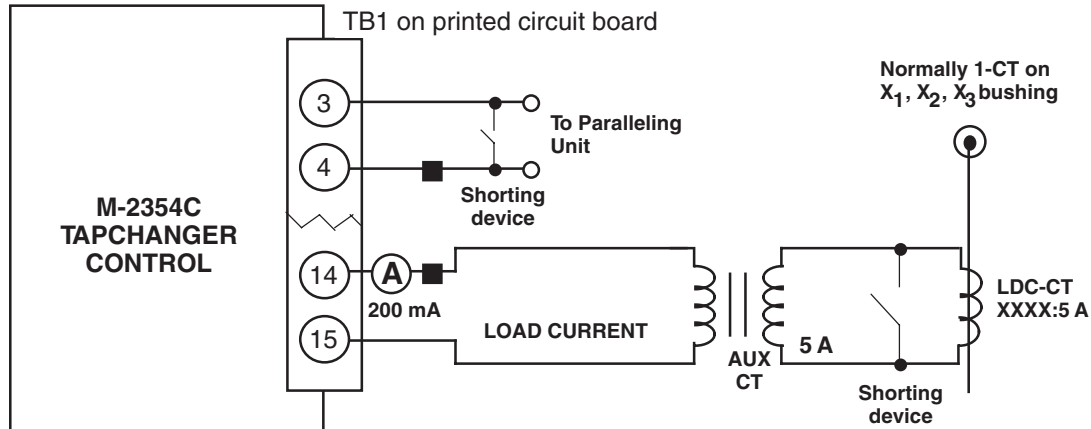

Figure 11 Setup for Current Checkout Procedure
1. Setup the M-2354C for current checkout as illustrated in Figure 11.